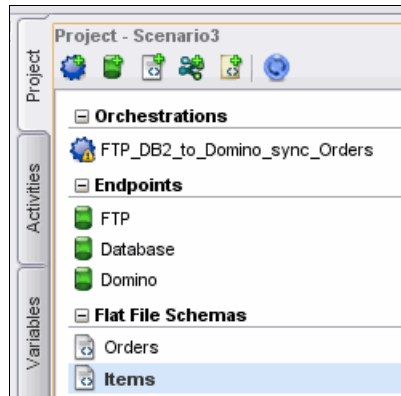

Figure 12-29 Opening the Items flat file schema for edition
8. Adjustments are still needed in the Items flat file schema that you just created. In the Project tab, double-click the Items flat file schema in the Flat File Schema section, as shown in Figure 12-29 on page 484.